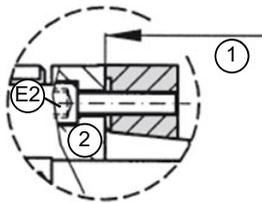
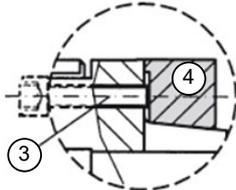

Figure 15: Coupling dead stop
Figure 16: Coupling clamp collar
- ◆ ETH100&125: loosen all clamping screws (please refer to Figure 15 Pos.E2) equally (approx. 3 mm) and screw in two of the screws in the open threaded holes. Now tighten screws evenly until the clamp collar (please refer to Figure 16 Pos. 4) is released from the coupling hub (please refer to Figure 15 Pos. 2) and can be freely moved.
- ◆ Please make sure that the clamping screw(s) of the coupling half is/are released and that the clamp collar (please refer to Figure 15 Pos. 4) and the coupling hub ((please refer to Figure 15 Pos. 2) are pulled apart.